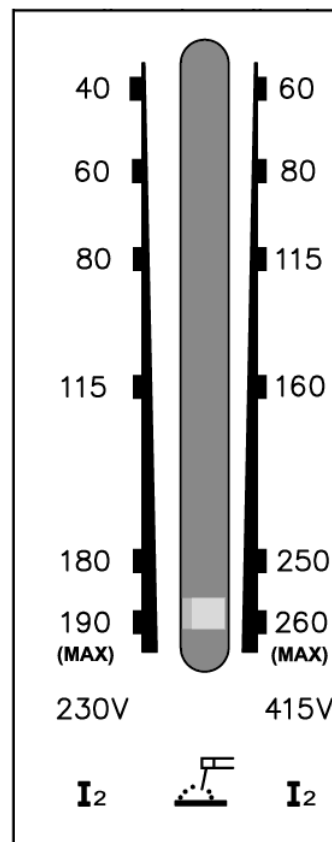

fig.3
- 7.4.6 Set the current required in amps using the control wheel on the front panel. See fig.4-6. Turn the control clockwise to increase the current, and anti-clockwise to decrease the current. The current set can be read from the graduated scale on the top panel of the machine. See fig.3.